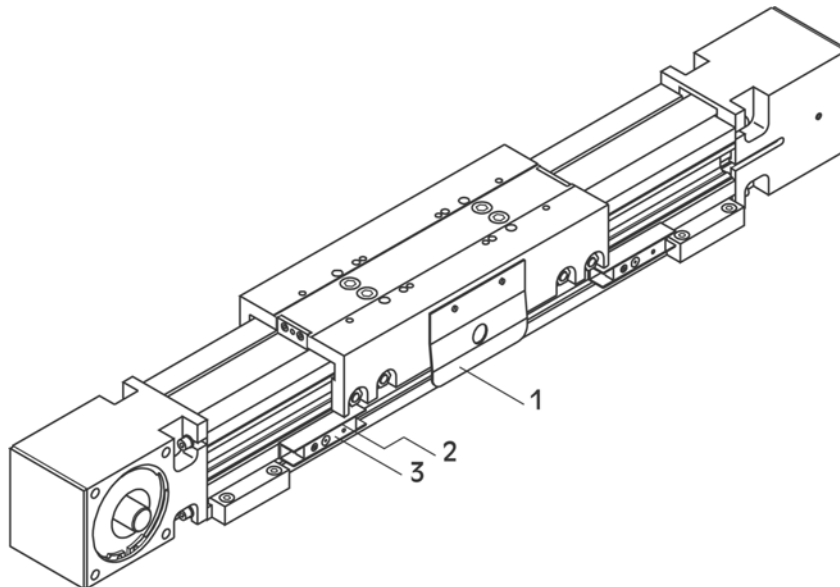

Fig. 5: Inductive proximity switches
4. **Fig. 5:** Release the proximity switch by loosening the attachment screw (2).
5. Move the proximity switch (3).
1. **Fig. 5:** Screw socket cap screws DIN 912 to retaining angle (1).
2. Screw retaining angle to limit switch (3) by using socket cap screws DIN 912.